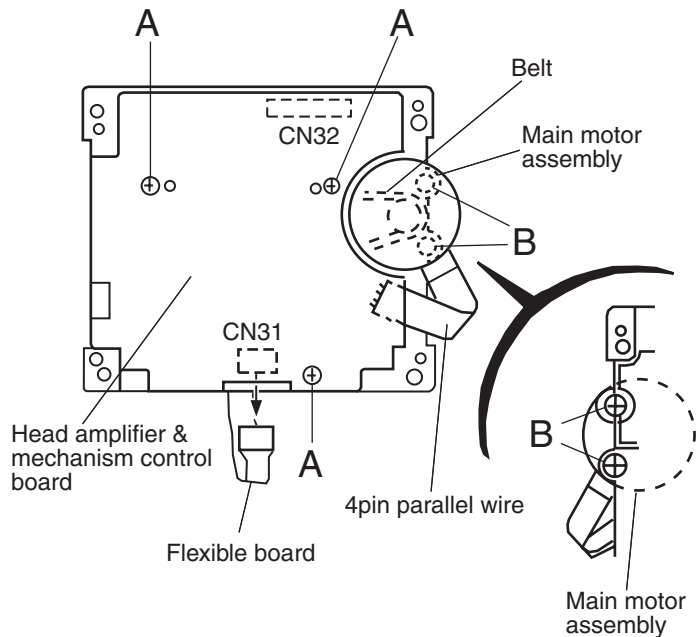

Fig. 4
(See Fig. 4)
(See Fig.4 ~ 6)
1. Remove the two screws **B** retaining the main motor assembly (See Fig. 4 and 4a).